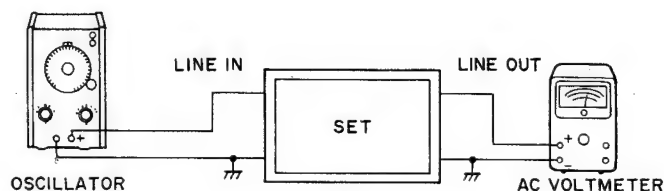

Figure 24
- (1) Make the connections as shown in Figure 24 and turn the power ON.
- (2) Insert the metal tape (TDK AC-712) into deck B and set to REC PLAY mode. Set the REC LEVEL volume to the maximum.
- (3) Input the 400 Hz/150 mV \pm 2 dB (oscillator output) signal into the line input in the mode set in (2) and make sure that the line output is 550 mV at that time.
- (1) Make the connection as shown in Figure 24 and turn the power ON.
- (3) Input the 400 Hz/150 mV \pm 2 dB (oscillator output) signal to the line input in the mode set in (2), and adjust the line output to 550 mV at that time. Adjust VR8001 (VR8002) observing the level meter of the set so that all the level indicator lamps of L (R) light up at once, and then readjust it so that the +6 indicator lamp goes out.